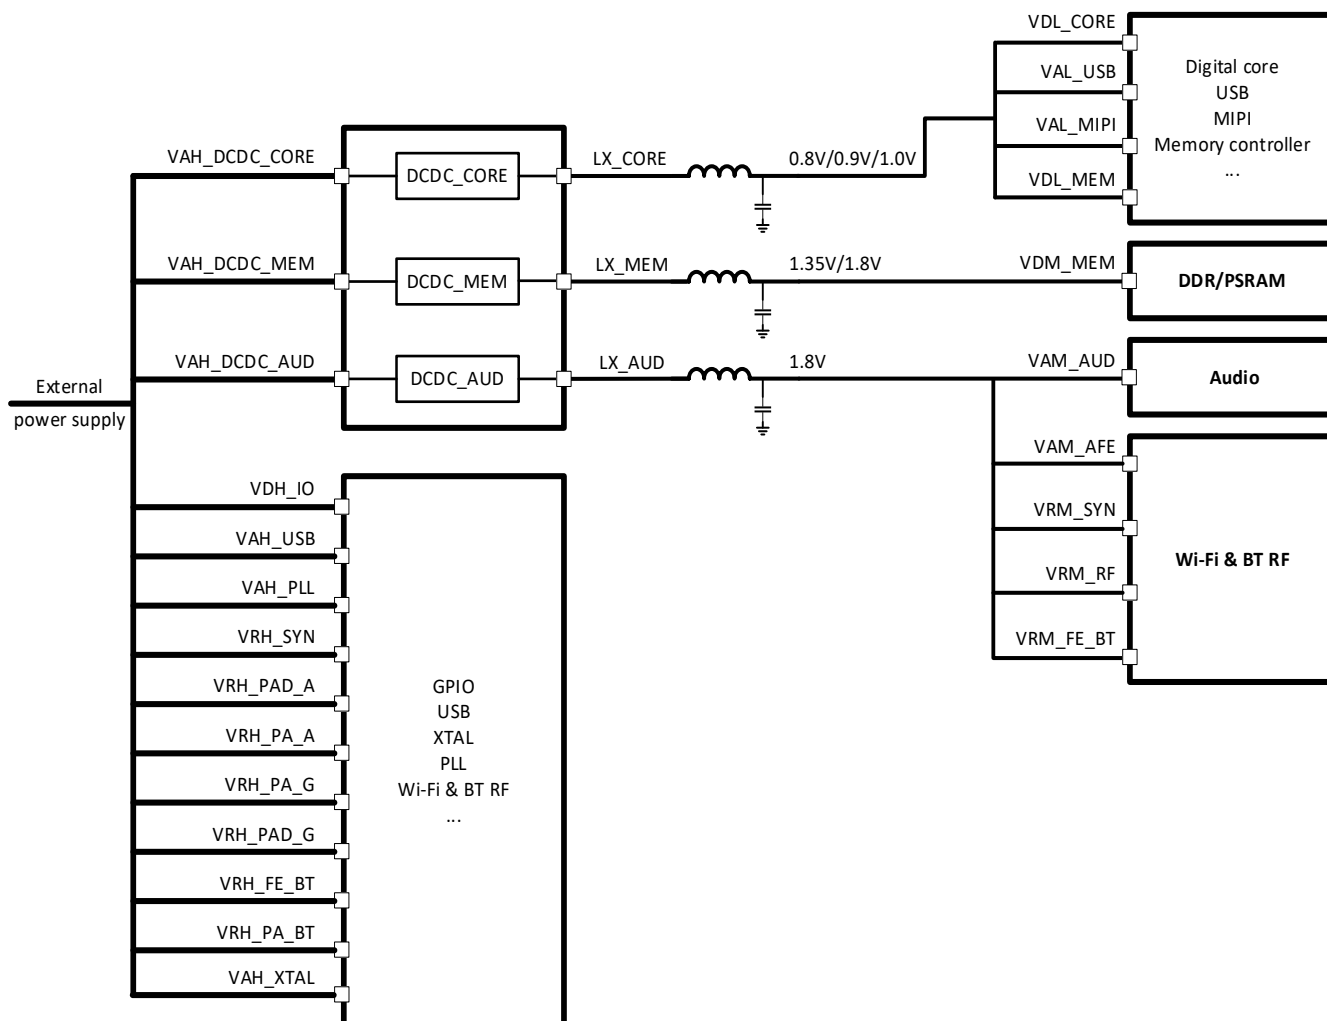
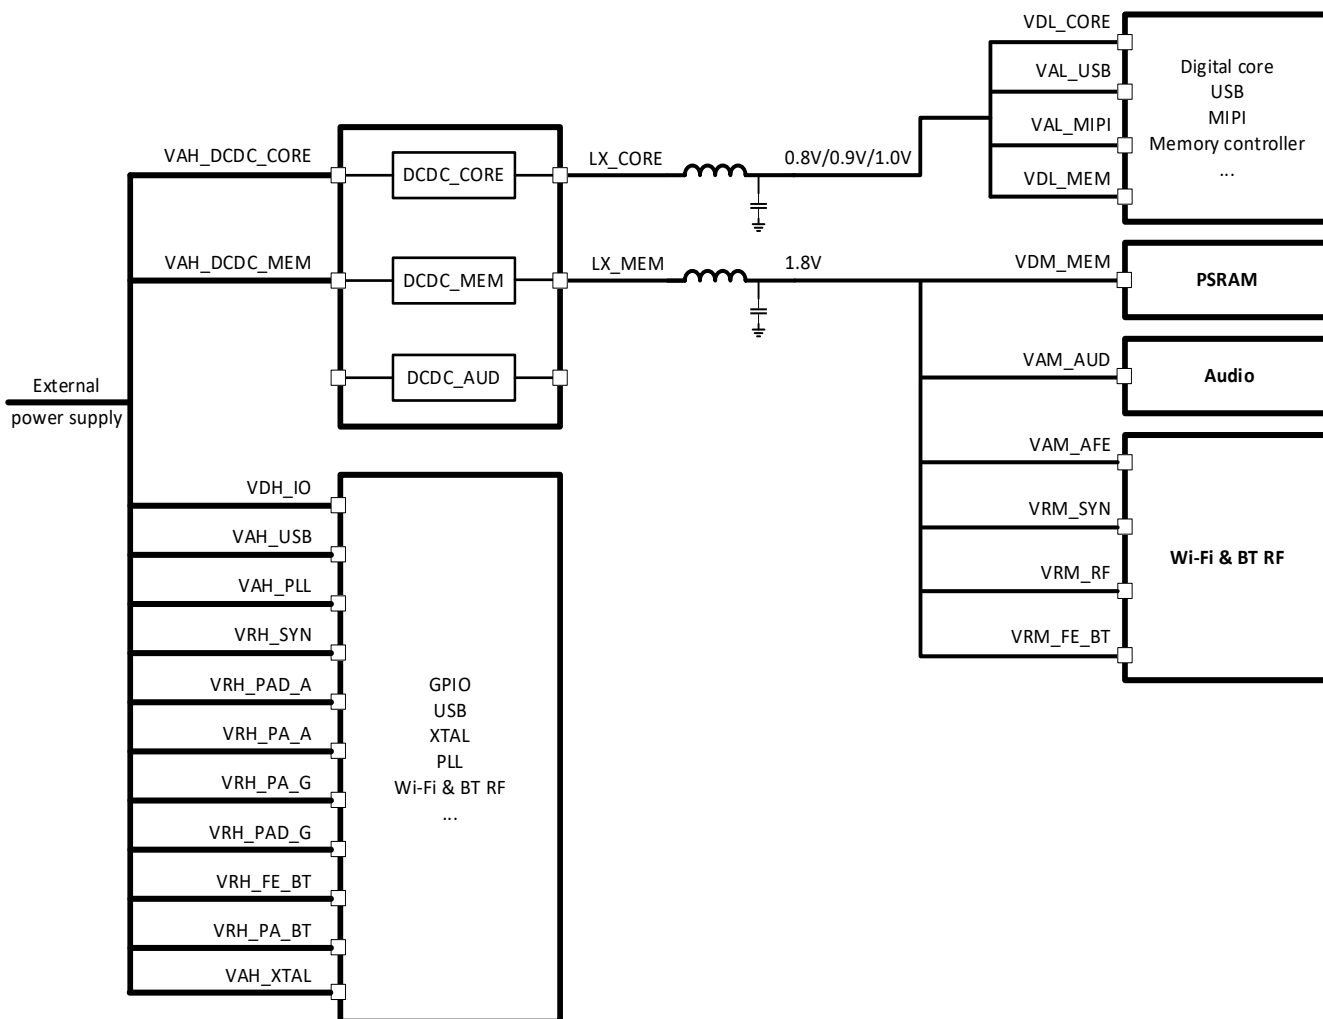

Figure 3-1 Power block diagram for all series of RTL8730E
Figure 3-2 Power block diagram for RTL8730ELH-VA3 and RTL8730EAH-VA3/VD3
The power structure diagrams are summarized in Figure 3-1 and Figure 3-2.
- Figure 3-1 applies for all series of RTL8730E.
- The DCDC_AUD outputs typical 1.8V for audio and radio frequency (RF) circuits.
- Figure 3-2 only applies for RTL8730ELH-VA3 and RTL8730EAH-VA3/VD3.